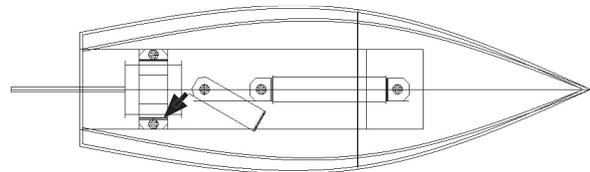

Fig. 68
Step 31. Click Copy and OK, **Fig. 68**.